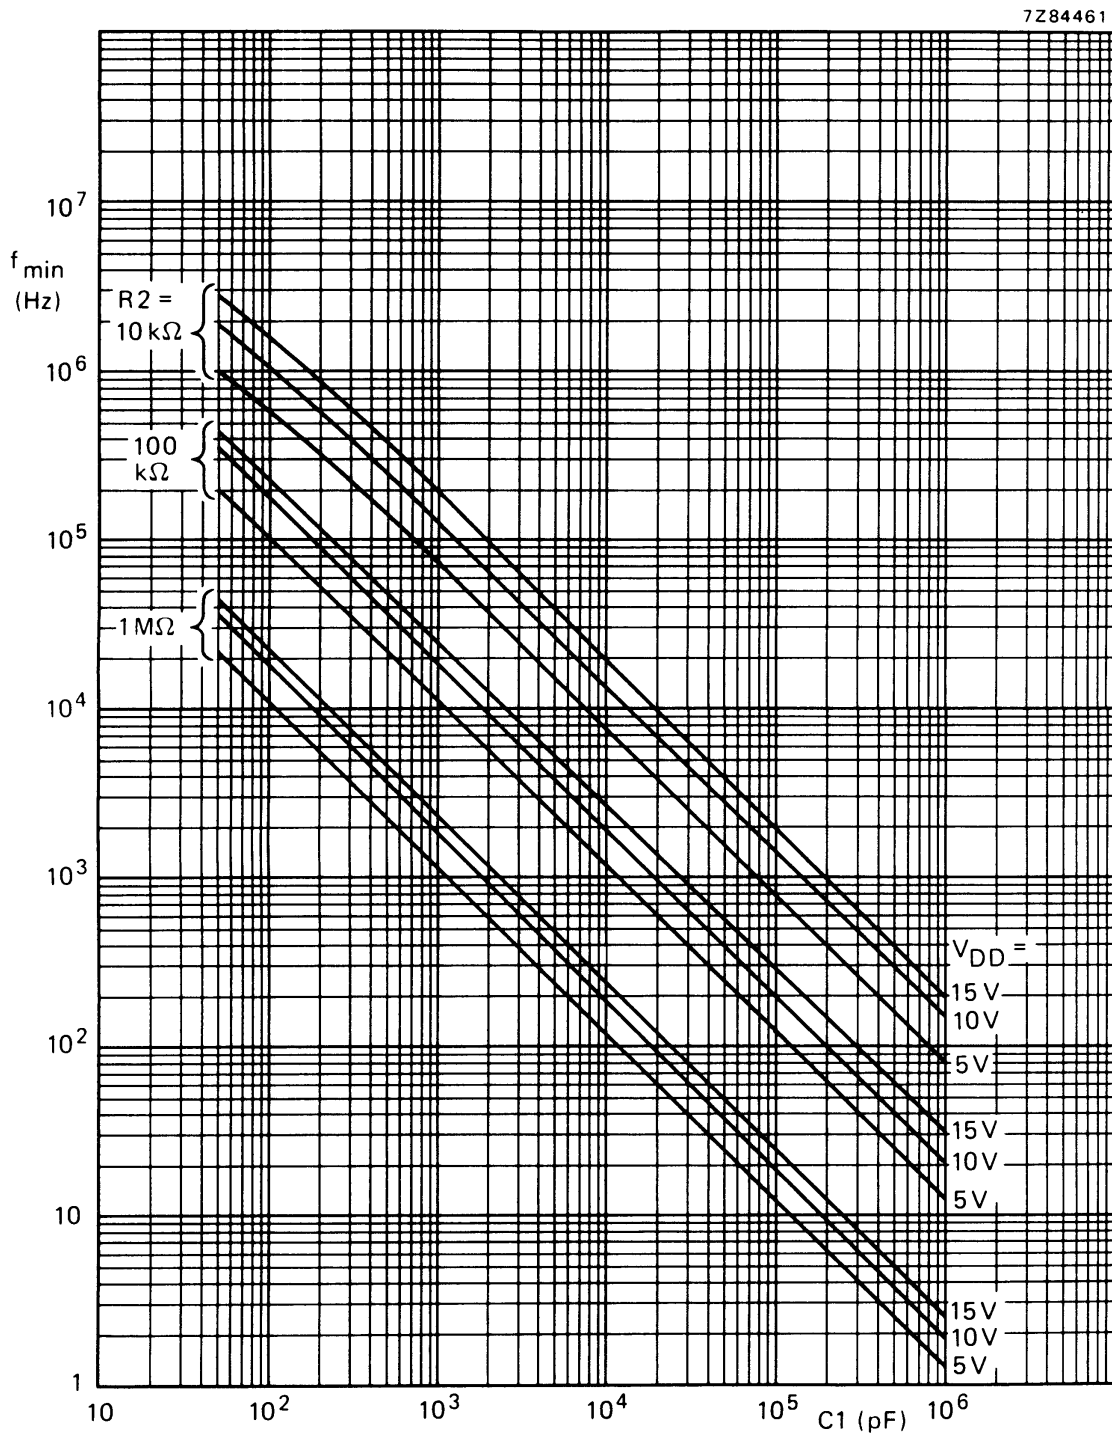
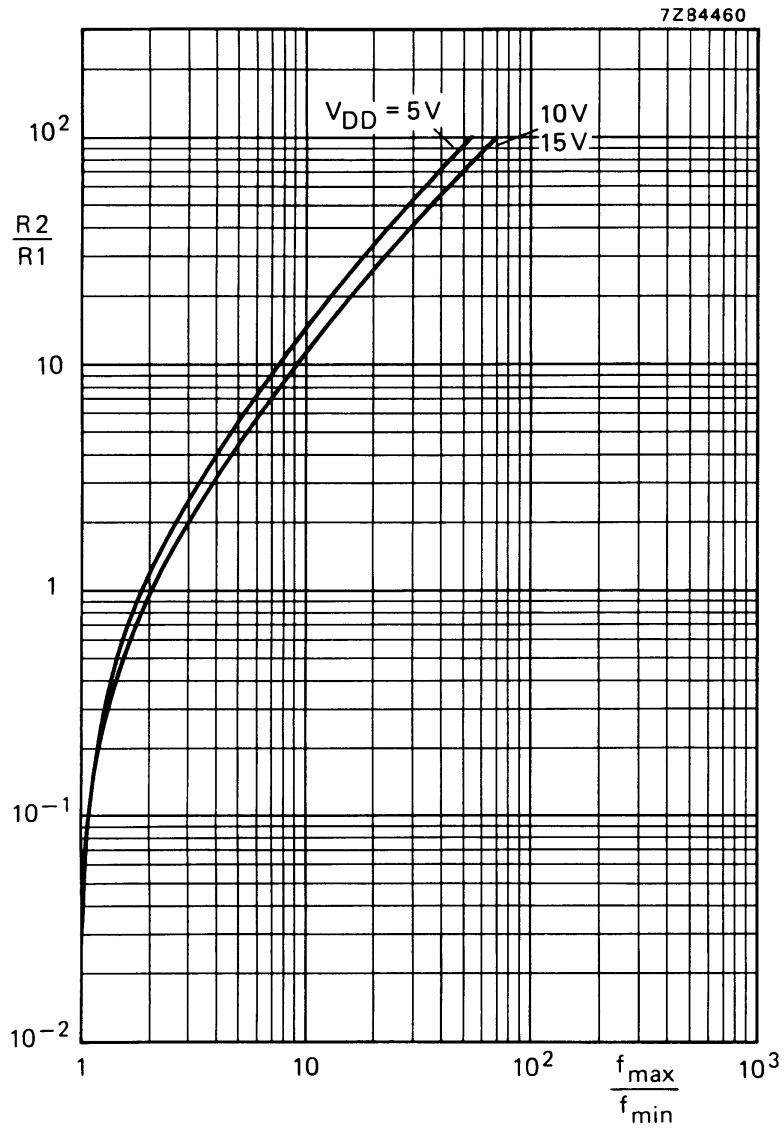

Fig.8 Typical frequency offset as a function of capacitor C_1 ; $T_{amb} = 25\text{ }^\circ\text{C}$; V_{COIN} at V_{SS} ; INH at V_{SS} ; $R_1 = \infty$.
Fig.9 Typical ratio of R2/R1 as a function of the ratio f_{max}/f_{min} .
- a) Given f_o and f_L : calculate f_{min} from the equation $f_{min} = f_o - f_L$; use f_{min} with Fig.8 to determine R2 and C1; calculate $\frac{f_{max}}{f_{min}}$ from the equation $\frac{f_{max}}{f_{min}} = \frac{f_o + f_L}{f_o - f_L}$; use $\frac{f_{max}}{f_{min}}$ with Fig. 9 to determine the ratio R2/R1 to obtain R1.
- b) Given f_{min} and f_{max} : use f_{min} with Fig.8 to determine R2 and C1; calculate $\frac{f_{max}}{f_{min}}$; use $\frac{f_{max}}{f_{min}}$ with Fig.9 to determine R2/R1 to obtain R1.